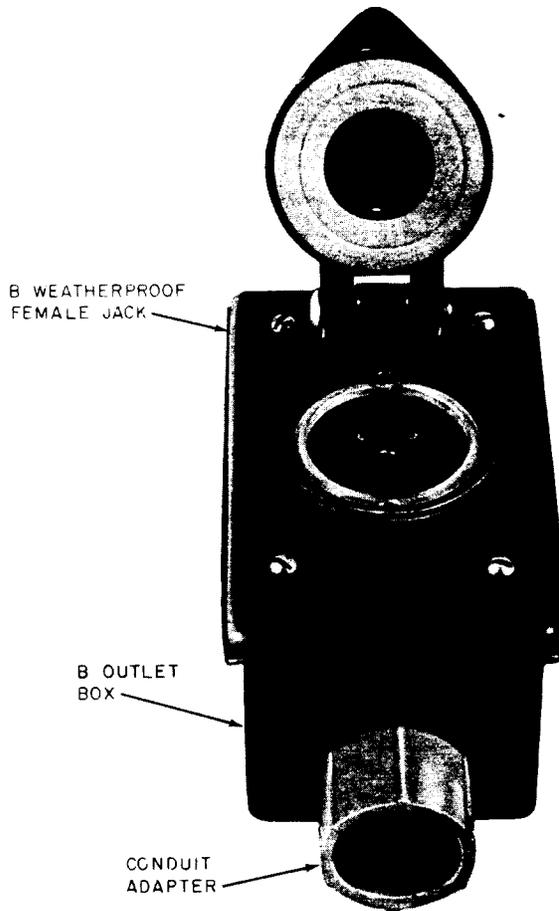

Fig. 13—B Weatherproof Female Jack on B Outlet Box (Cover Open)
- One B outlet box (for mounting jack on dock or pier, Fig. 13)